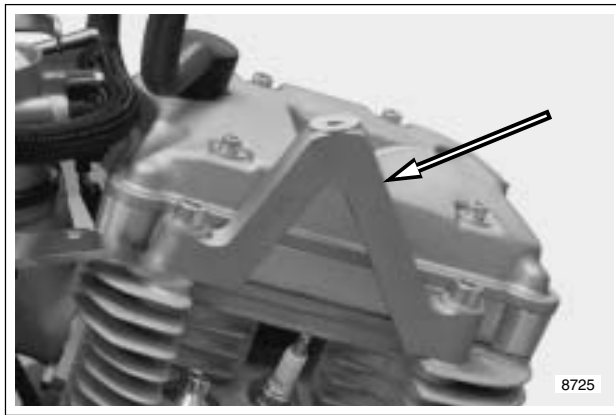

Figure 3-28. Center Tie Bar Mount
- See Figure 3-28. Center tie bar mount.